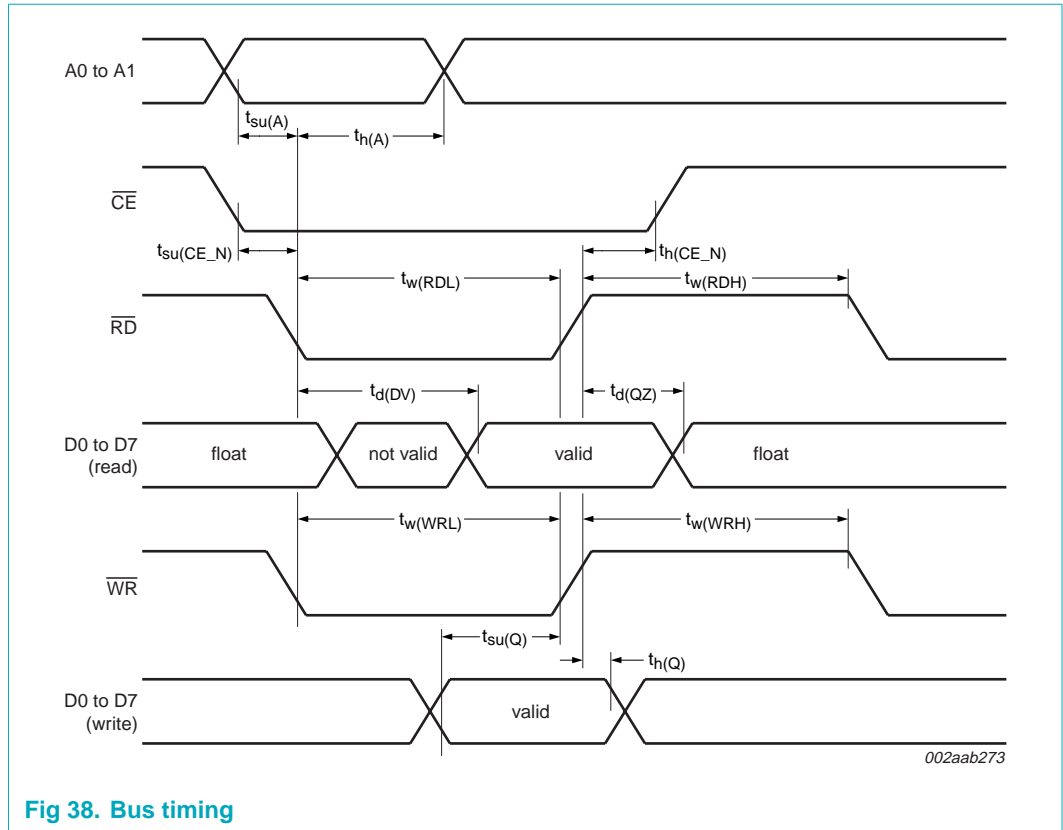
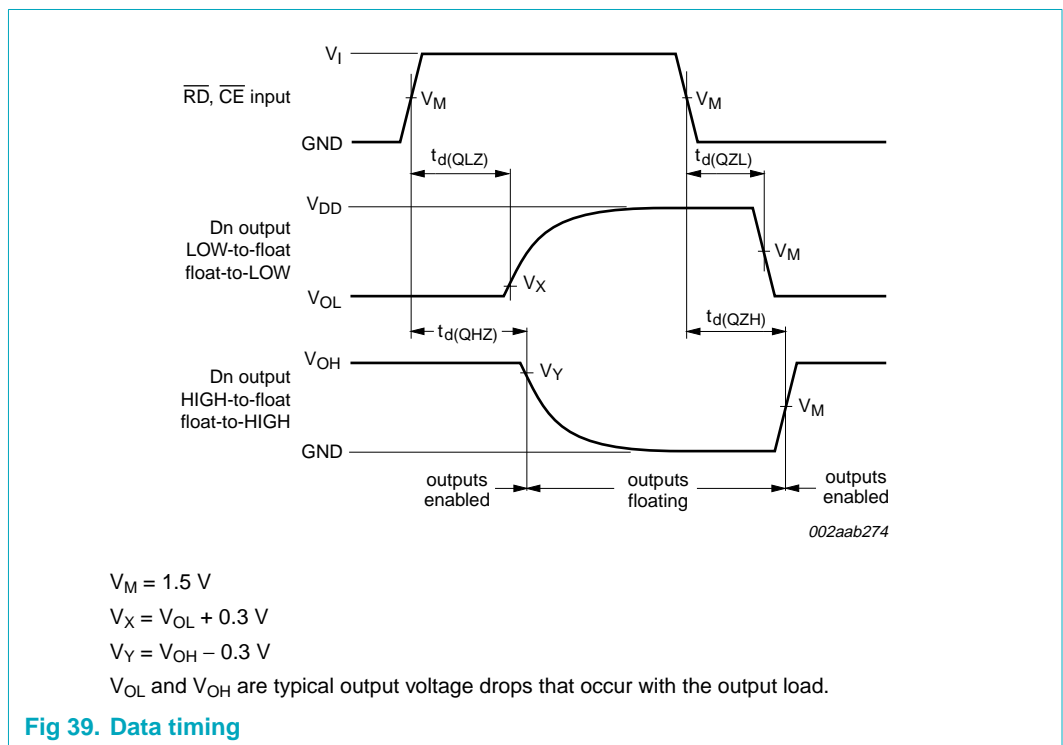

Fig 38. Bus timing
Fig 39. Data timing
Bus timing (see Figure 38 and Figure 39)
[2] All voltage measurements are referenced to ground (GND). For testing, all inputs swing between 0 V and 3.0 V with a transition time of 5 ns maximum. All time measurements are referenced at input voltages of 1.5 V and output voltages shown in Figure 38 and Figure 39.
- [2] All voltage measurements are referenced to ground (GND). For testing, all inputs swing between 0 V and 3.0 V with a transition time of 5 ns maximum. All time measurements are referenced at input voltages of 1.5 V and output voltages shown in Figure 38 and Figure 39.